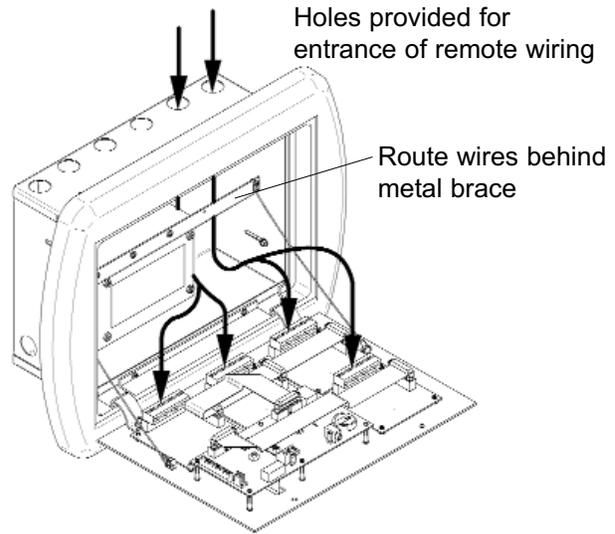

Figure 26: Source Equipment Wire Routing
2. Route each pair of signal wires as shown in Figure 26 to appropriate multi-signal module.